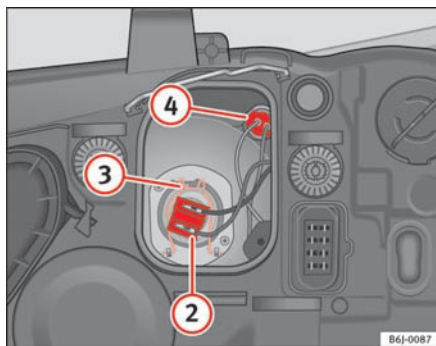

Fig. 133 Side lights
- Remove the connector ⇒ fig. 133 (2) from the bulb.
- Disengage the retainer spring ⇒ fig. 133 (3) pressing inwards to the right.